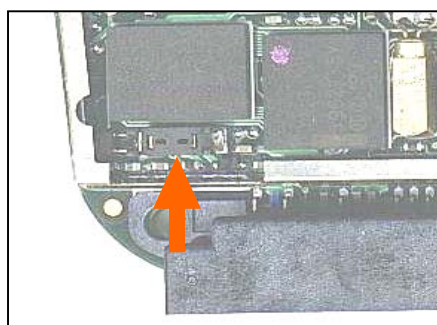

Fig. 6.3
- Check the resistance of R400 (Fig. 6.3). Replace resistor R400 if it is incorrectly soldered or damaged.